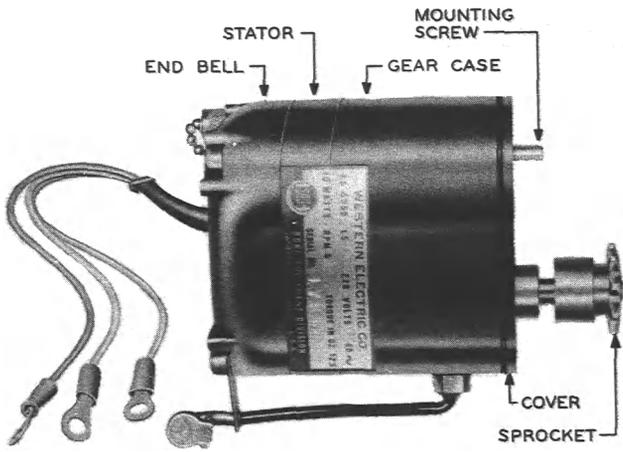

Fig. 3 - KS-5559, List 5 Motor (Borg)
2. To rearrange the figures to include Fig. 3 and 7 of the Borg motor.